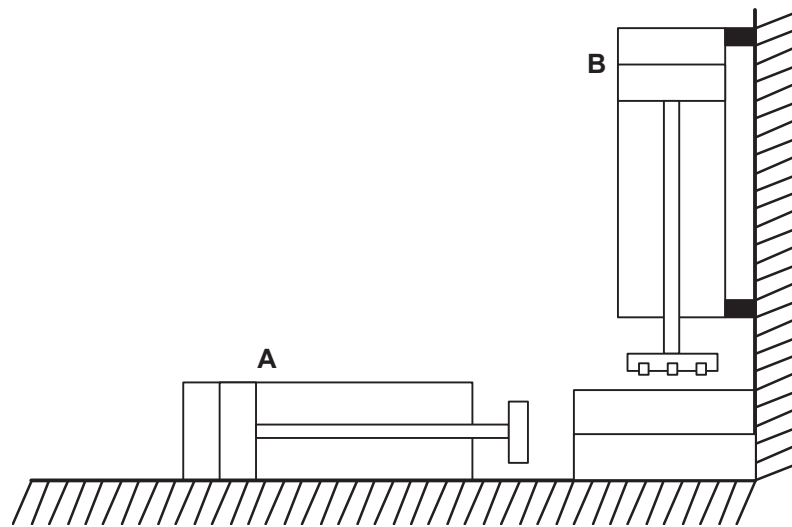

Fig. 7
(d) Fig. 7 shows part of a pneumatic circuit which is used to glue two parts together.
- (ii) What is the purpose of component **A** in Fig. 7?